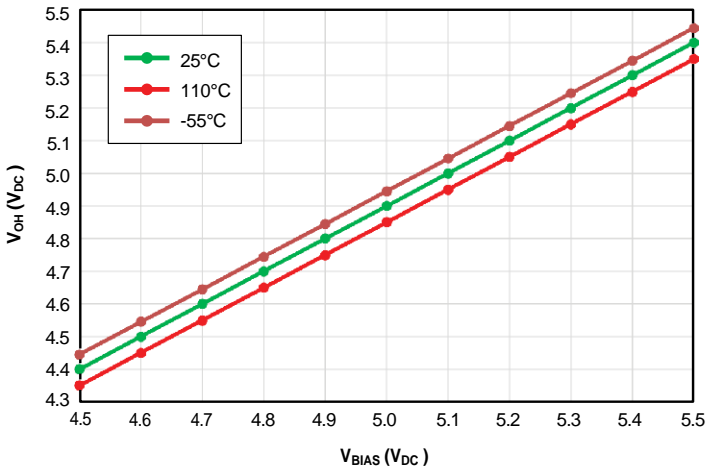

Figure 7. Low-Side V_{OUT} -to- V_{BIAS} Relationship
- 15.) There is a slight offset of the peak output voltage (V_{OH}) from the value of V_{BIAS} . This offset is greater for the high-side gate driver than the low-side gate driver due to the presence of the Schottky bootstrap diode. The objective of driving an eGAN[®] HEMT is to provide sufficient gate drive voltage to ensure that the device is fully enhanced. This value is 5.0 V_{DC} for EPC Space HEMT devices. Please refer to Figures 7 and 9 for the relationship between V_{BIAS} and V_{OUT} (V_{OH}) for the low- and high-side gate drivers, respectively, for guidance as to where to set V_{BIAS} for optimum performance in the end-application.